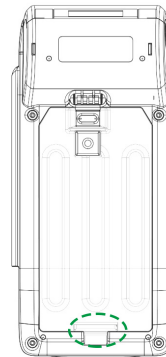

Figure 11
STEP 2: After install the battery, close the bottom cover as Figure 11.